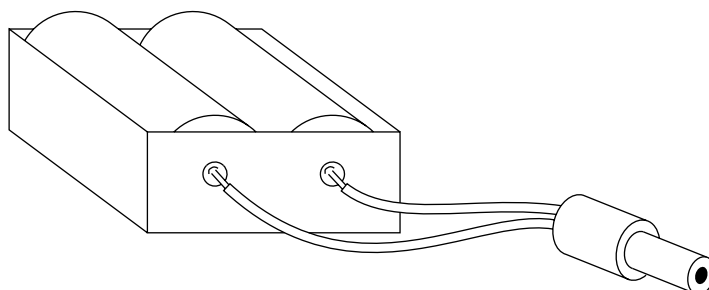

FIGURE 10-11: Battery compartment with power plug soldered on
3. Keeping in mind the polarity, solder the wires from the battery compartment to the power plug (see Figure 10-11).